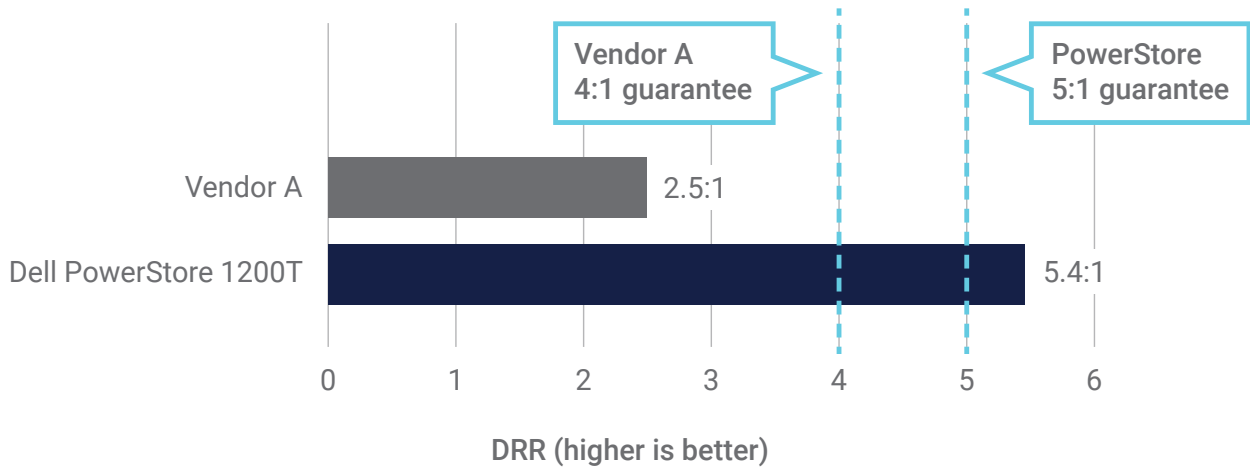

Figure 1 | Comparison of guaranteed and measured DRRs
A storage platform's usable or physical capacity represents the amount of data it can store out-of-the-box before data reduction is applied. Logical capacity is measured after the storage operating system (OS) applies data compression and deduplication to the reducible data. A DRR guarantee promises that using data compression and deduplication, the storage platform's logical capacity will be X times greater than its usable capacity. The latest PowerStoreOS release includes a new capability called intelligent compression. In the PowerStore platform we tested, the new OS delivered up to 20% higher data reduction compared to the previous OS release. According to our tests, this improved data efficiency delivered a DRR of 5.4:1 on the simulated dataset (see Figure 1), which supports Dell Technologies' updated DRR guarantee of 5:1.¹ The Vendor A platform offers a 4:1 DRR guarantee; however, its data efficiency fell short in our testing, with a DRR of 2.5:1.² See the Appendix for details on the test configurations and procedures.